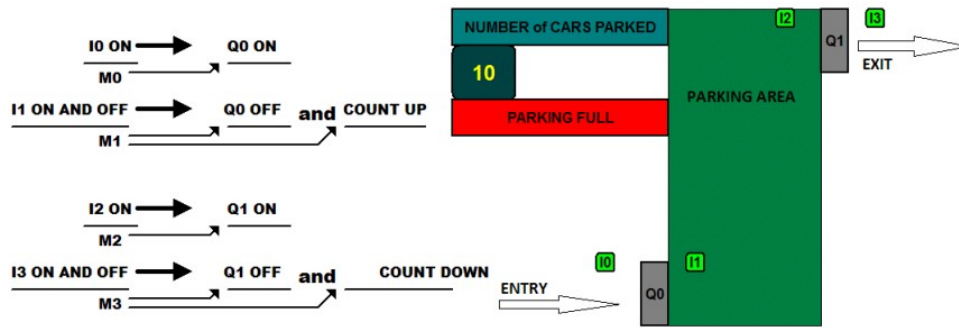

Figure Q3b
b) Figure Q3b is a car parking area where we have entry gate Q0 and exit gate Q1. On entry we have two sensors, I0 outside and I1 inside. On exit also we have two sensors I2 and I3. When car comes in front of I0 sensor, gate Q0 is open. When car reaches to I1 sensor, nothing will happen. When car crosses sensor I1 then gate Q0 will be closed and it would be count up. Inside parking area when car reaches to sensor I2, exit gate Q1 is open. When car crosses I3 sensor then Q1 is closed and it would be count down on display to show the present number of cars inside parking area. Maximum 10 cars will be parked. When parking is full and 11th car comes in front of entry sensor I0, entry gate should not get open. Design a PLC program in ladder logic for the parking.